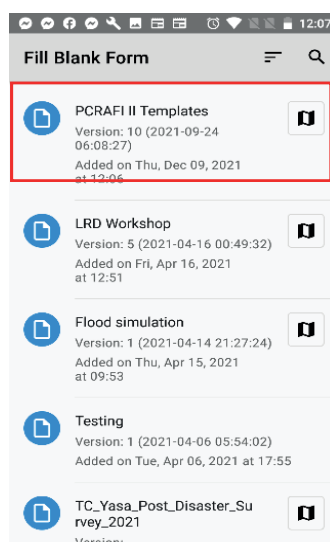
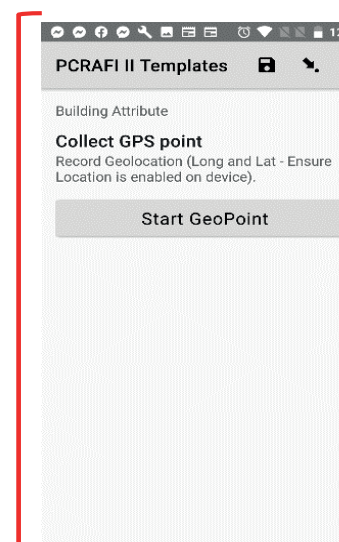

Figure 56: KoBoCollect - Selecting Blank Form
Figure 57: Default - first attribute in template selected opens
2. Select "PCRAFI II Templates" and click on "Get Selected" at the bottom of the page. (Figure 56) (Note: Kobo will automatically open the first template which is the "Building Attribute" template: Collect GPS point – Figure 57)